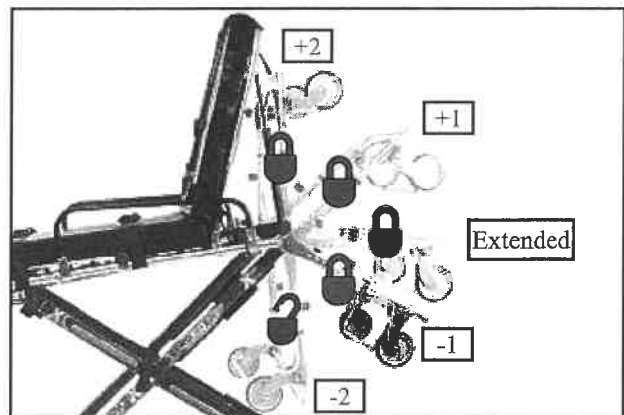

Figure 10 - Drop Frame Positions
- **Purpose:** The 5-position drop frame has many uses (Figure 10).